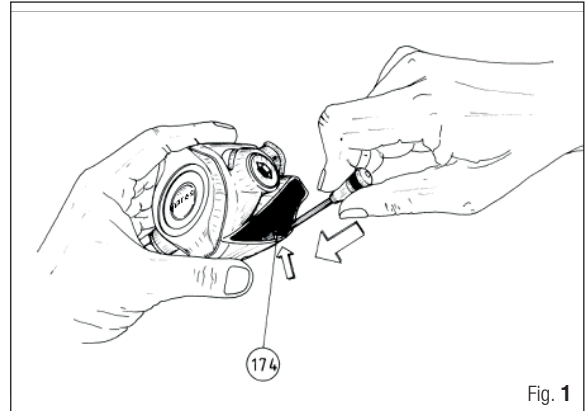

Fig. 1
2. Unscrew the hose from the 1st stage and remove the O-ring (19).
3. Remove the clamp (43) from the mouthpiece using cutting nippers or a similar tool.
4. Remove the mouthpiece (44).
5. Remove the fixing pin (174) from the cap (41) of the exhaust tee (Fig. 1).
**NOTE** FOR THE OPERATION DESCRIBED IN STEP 4, IT IS RECOMMENDED THAT YOU USE A METAL PRICKER HAVING A MAX DIAMETER OF 2 MM (FIG. 1).
6. Remove the inspection cap (41).
7. Move the hose cover (46).
9. Remove the O-ring (27) from the seat of the swivel hose coupling.
10. Unscrew the case assembly connector (28) using a 17-mm open end wrench (B-17).
11. Remove the O-Ring (71) from the case assembly connector (28).
12. Unscrew the poppet seat (21) from the case assembly connector (28) using a 5-mm hex wrench (B-4).
13. Remove the O-Ring (27) from the poppet seat (21).
14. Pull out the by-pass retainer ring (96).
15. Remove the safety clip (63).